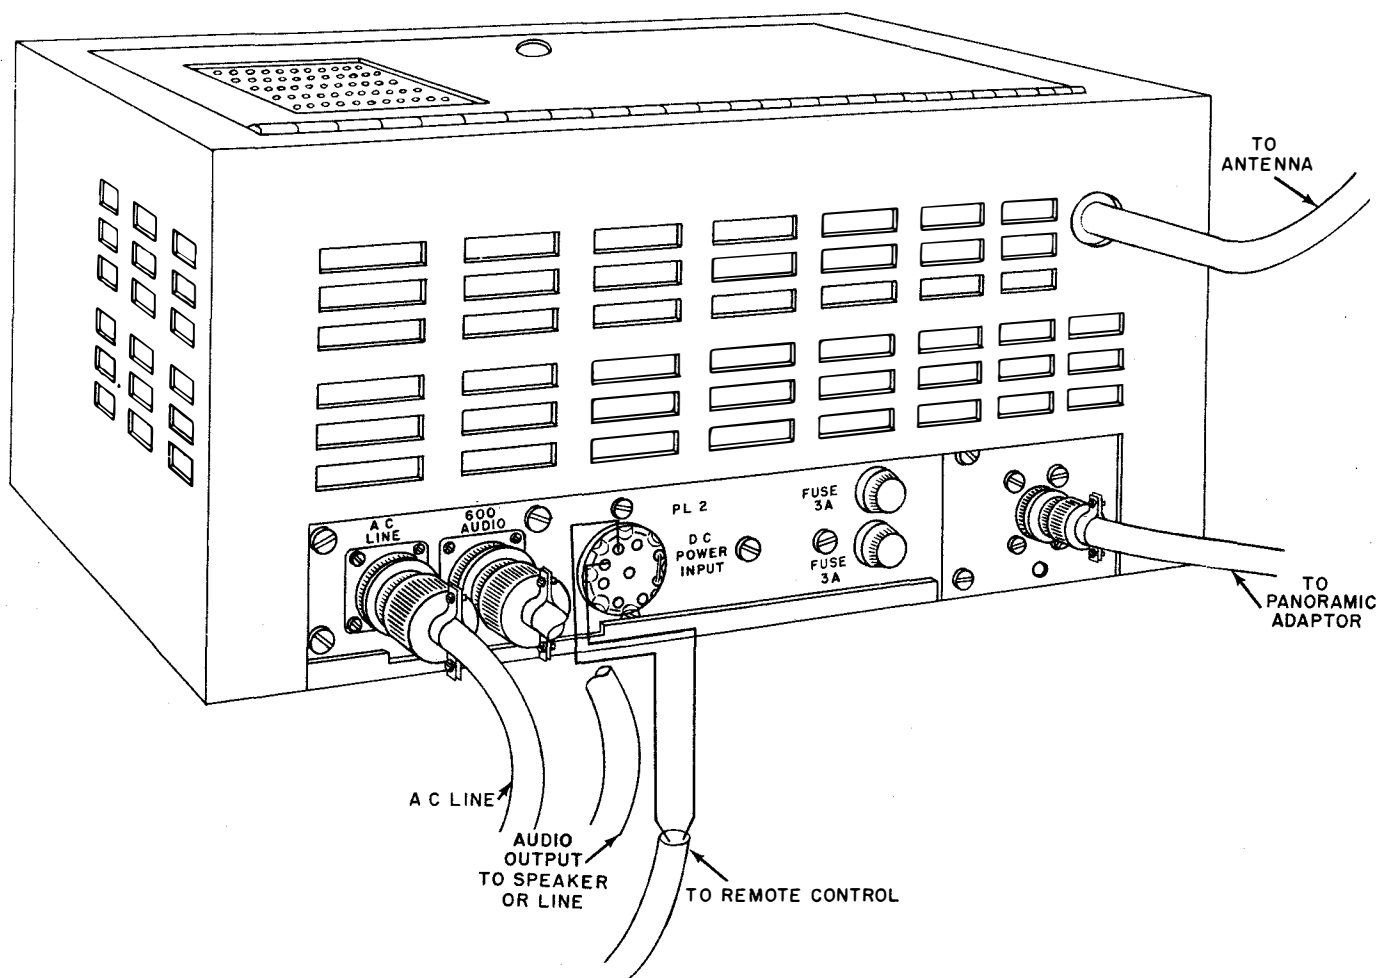

Figure 3-3. Radio Receiving Equipment Navy Model RBK-16, View Showing Cables and Plugs Attached.
f. When batteries are used to power the receiver, 6 volts at 4.5 amp. is connected with the positive (+) lead to pin 7 of the unwired duplicate of plug PL2, and the negative (-) lead to pins 1 or 8. The 270 volts at 145 ma. is connected with the positive (+) lead to pin 3 and the negative (-) lead to pin 5. (See figures 3-3 and 3-5).
g. To remote control the REC.-SEND switch, a jumper is inserted across pins 6 and 7 of the unwired duplicate of plug PL2, and the remote switch is connected between pins 3 and 4. (See figures 3-3 and 4-3).
h. The antenna lead-in is connected to plug PL3 a type CN-49121A and inserted in socket SO3 on the rear of the receiver. (See figure 3-3).